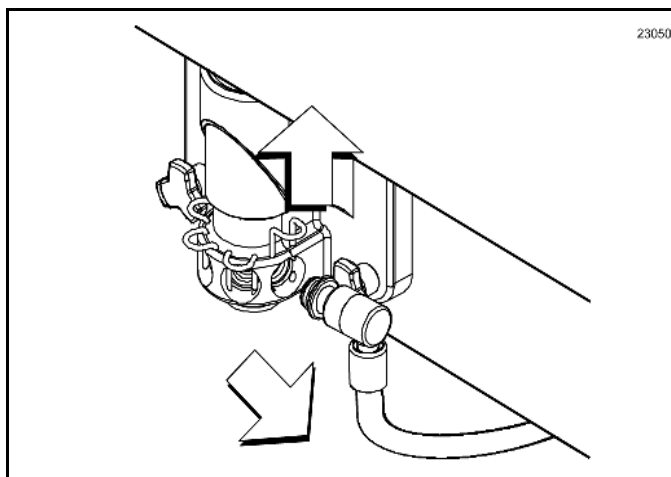

Figure 2-149
4. Disconnect the syrup valve from the freezer door. Raise the syrup valve retainer and pull the valve straight out. (See Figure 2-149.)